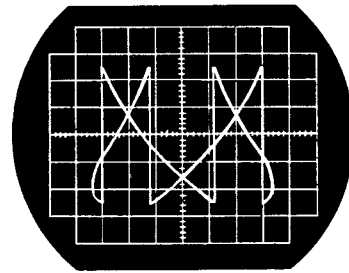

Fig. 13 Lissajous pattern
4. Adjust VR₃ so that a Lissajous pattern is traced on the oscilloscope (Fig. 13).